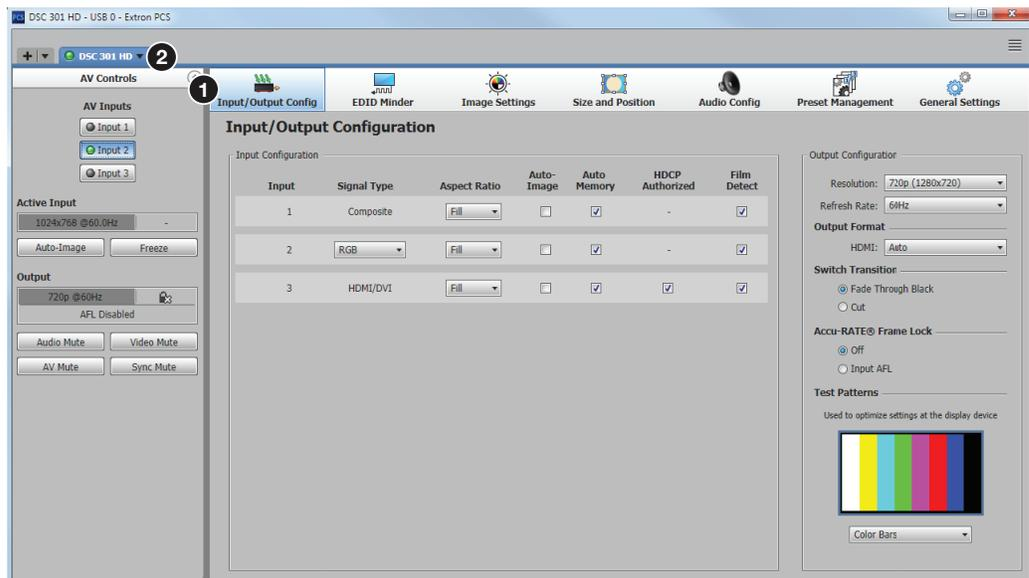

Figure 22. Device Configuration Pages
The configuration page has a global navigation bar (see figure 22, ①), from which each of the individual configuration pages can be accessed. These pages are: